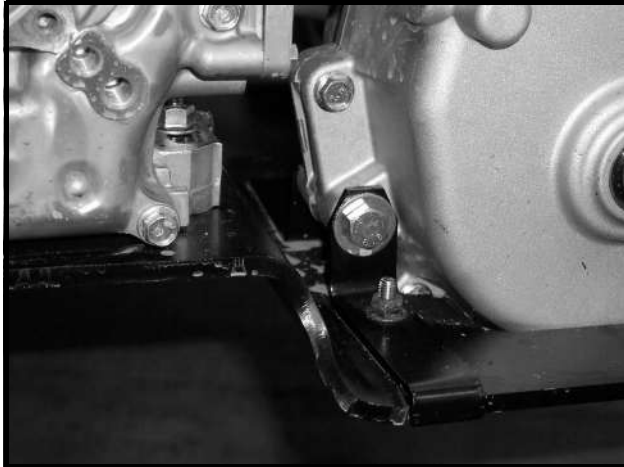

Figure 13a-1 Engine Mounting Bolts
23. Remove the engine mounting hardware (**Figure 13a-1, Page 13a-3**).